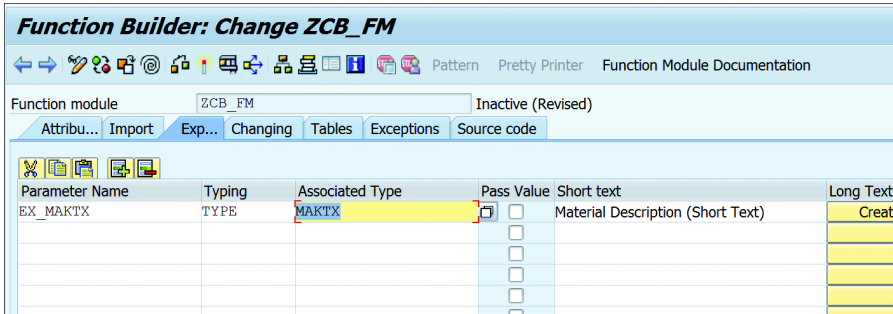

Figure 7.18 Export Tab
- ▶ **EXPORT:** You define all the parameters that will be exported to the calling program under the EXPORT tab. Except for the missing DEFAULT VALUE and OPTIONAL columns, as shown in the IMPORT tab, all other columns are similar to the IMPORT tab (Figure 7.18). These parameters are filled in the function